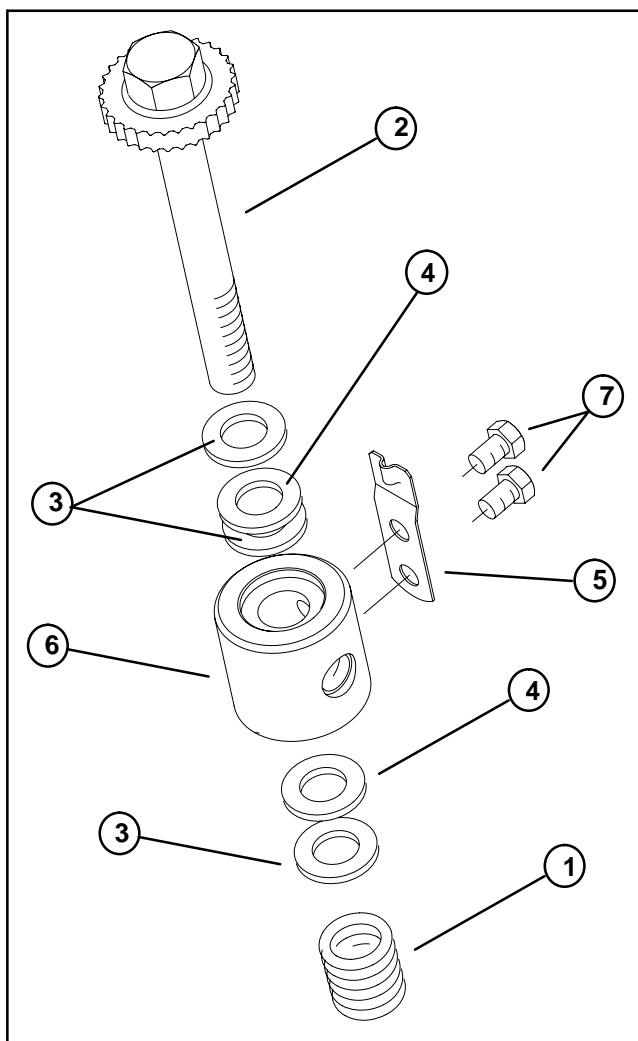

Figure 50
### Disassembly (Fig. 50)
### Assembly (Fig. 50)
1. Place antiseize lubricant onto the threads of the adjuster (Fig. 50).
2. Screw adjuster (29) into bedbar pivot (50) enough to align holes of the frame bracket and pivot housing (28).
3. Place pivot screws (30) through bushings (31) in the frame bracket and into the pivot housing (28). Tighten screws into the pivot housing.